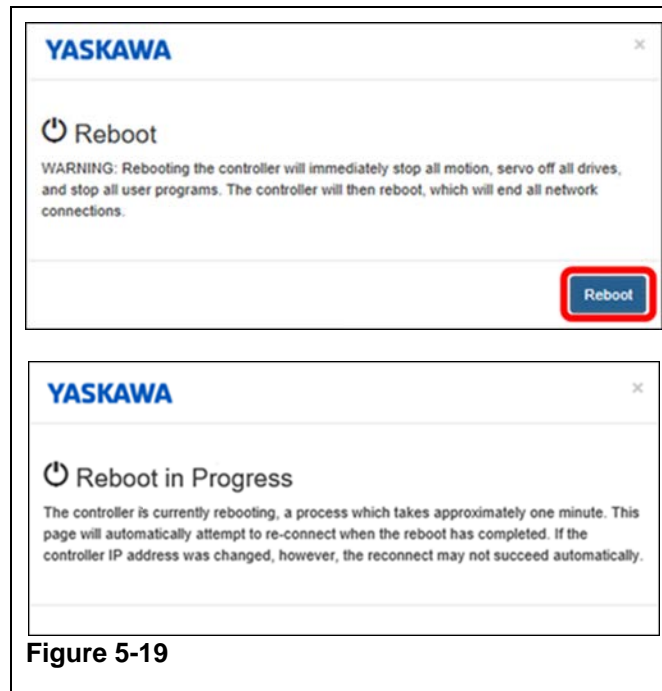

Figure 5-19
- viii. On the ‘Reboot’ pop-up screen, press the “Reboot” button. This will make all of the recent changes persistent in the Yaskawa controller. (Refer to Figure 5-19)